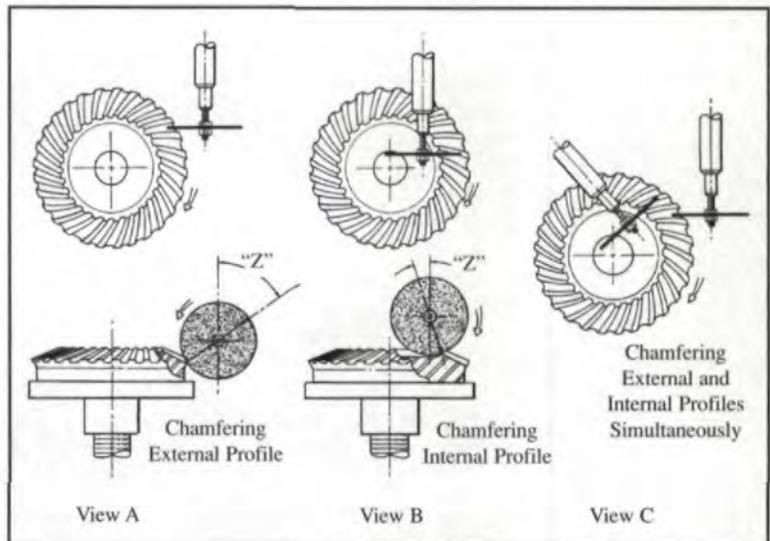

Fig. 9 — Spiral bevel gear setup.
- Instead of aligning the grinding wheel with the centerline of the gear, it should be positioned on the gear tooth root that is closest to being parallel to the grinding wheel (see Fig. 9, View A).
- The pivot angle "Z" should be approximately 15° from the gear face being chamfered (see Fig. 9, View B).
heads (see Fig. 9, View C).